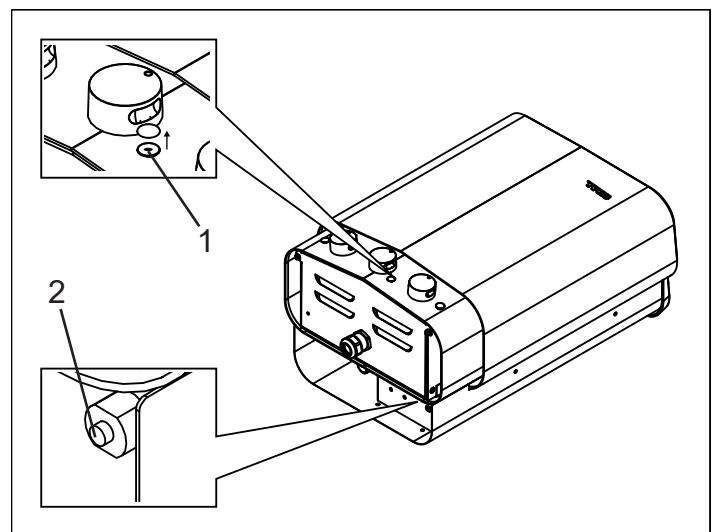

Figure 8: Resetting the temperature cut-out devices
- **Heater** - The temperature cut-out in the heater is designed to protect the components, tubular elements and woodwork in the sauna from overheating. On the front of the heater, under a black cover plug to the right of the thermostat dial, is a red reset button which must be pressed in (see Figure 8). If the cut-out has activated, the button will feel stiff and will click when reset. If the cut-out has not activated and after resetting, the button will feel springy.
- **Water reservoir** - The temperature cut-out in the reservoir is designed to protect the heater element from boiling dry. There is a red reset button under the heater which must be pressed in (see Figure 8). If the cut-out has activated, the button will feel stiff and will click when reset. If the cut-out has not activated and after resetting, the button will feel springy.